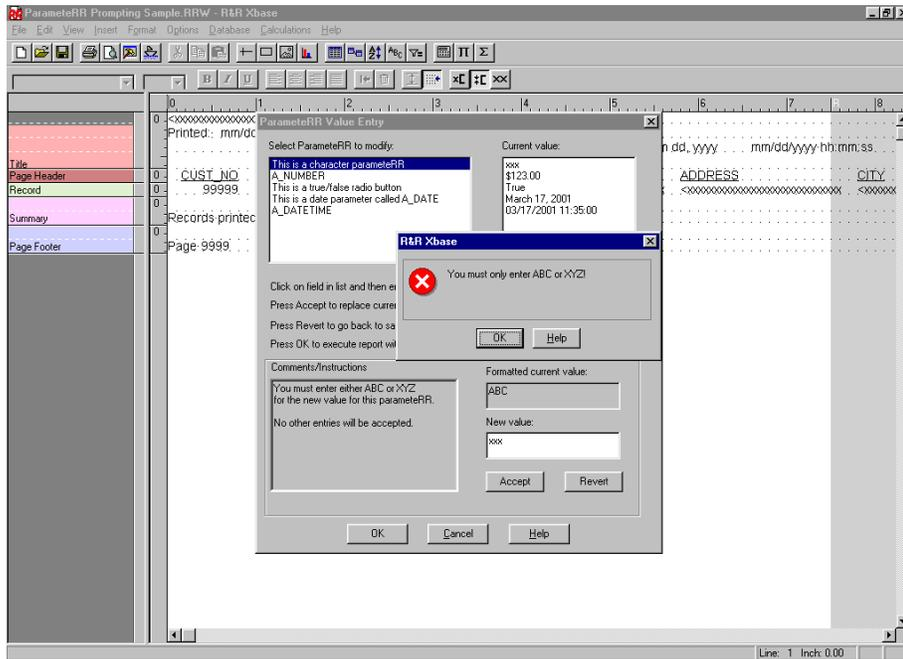

Figure 9.14. Example Error dialog for Character Parameter (Value does not pass Validation and has error property defined)
- An entry of other than ABC or XYZ will result in an error dialog with the text defined in the Error property for the field. See Figure 9.14 illustrating what happens when xxx is entered in the New value box and the Accept button is pressed.